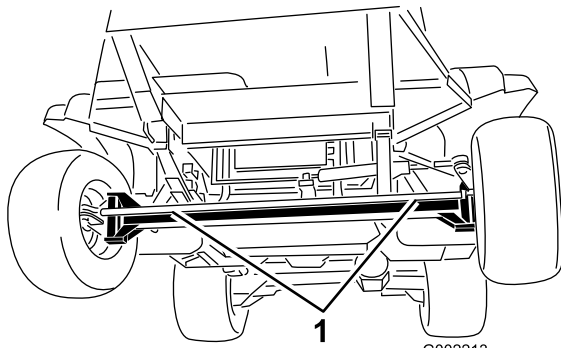
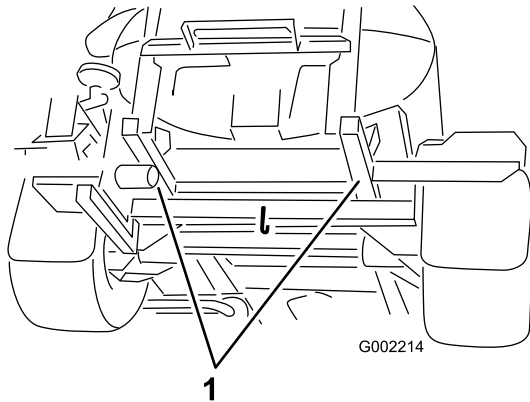

Figure 58
Figure 59
4. Affix a tow line to the frame; refer to the front and rear towing points (Figure 58 and Figure 59).